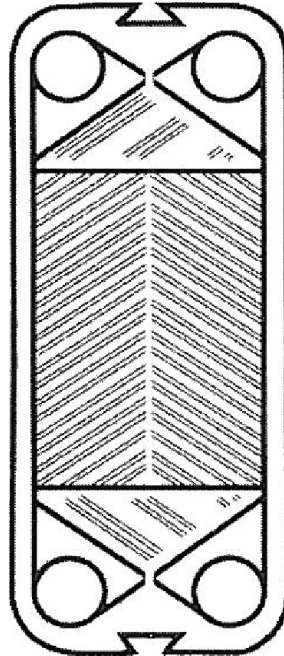

Figure 8-17. End Plate with Gasket Installed
3. Attach gasket to plate as indicated in Figure 8-17, below.